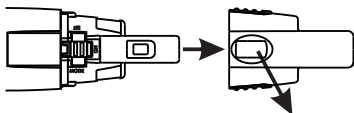

Fig. 14: Power switch is exposed
1. To prevent users from powering off the microphone accidentally, take out and reverse the protective rear cover, Fig. 14 & 15.